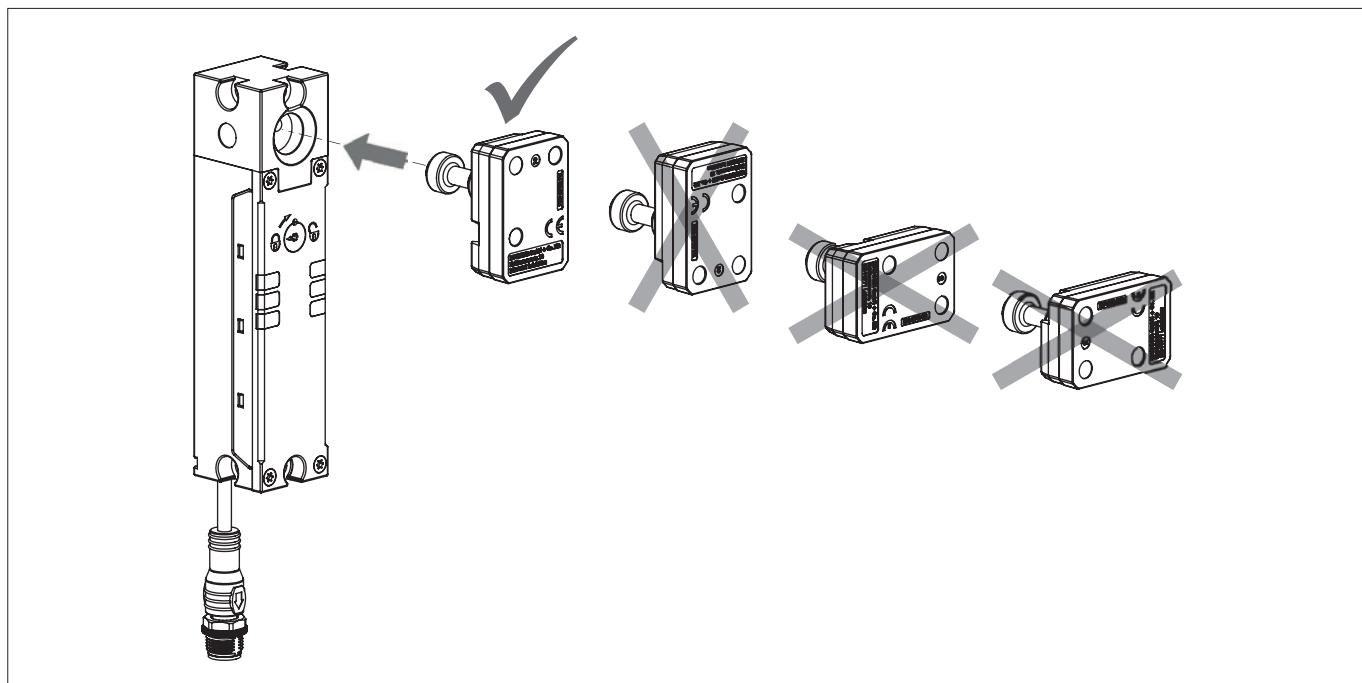

Fig. 2: Actuator alignment
- Actuator and safety switch must be mounted such that the actuator is perpendicularly and completely inserted into the switch when the guard is closed (see *Fig. 2*). The guard locking function is not assured if installation is incorrect.